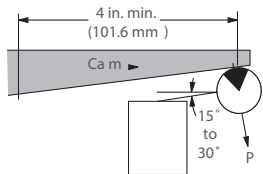

Figure 1B: Cam design for speeds from 50 to 200 fpm (15.2 to 60.9 mpm)
- The cam in Figure 1B is suitable for speeds up to 200 fpm (60.9 mpm) (nonuniform acceleration of switch lever)